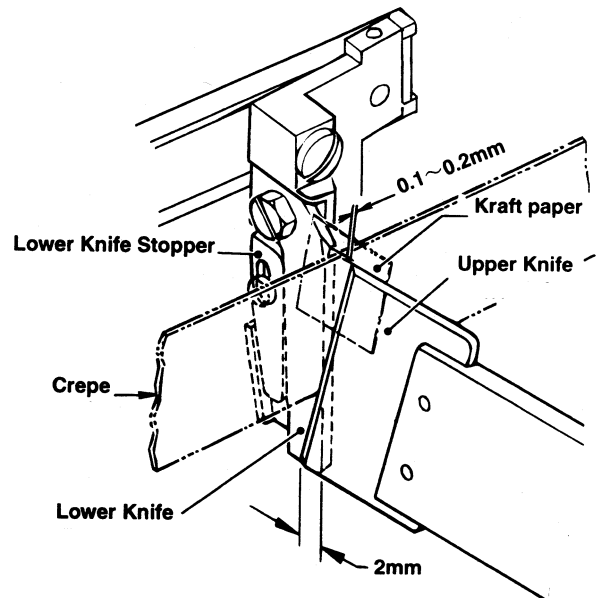
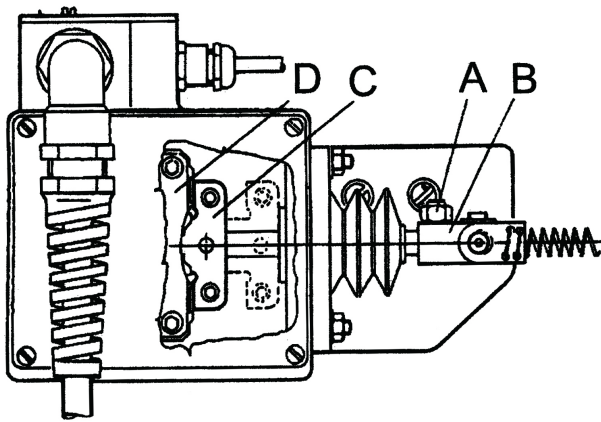
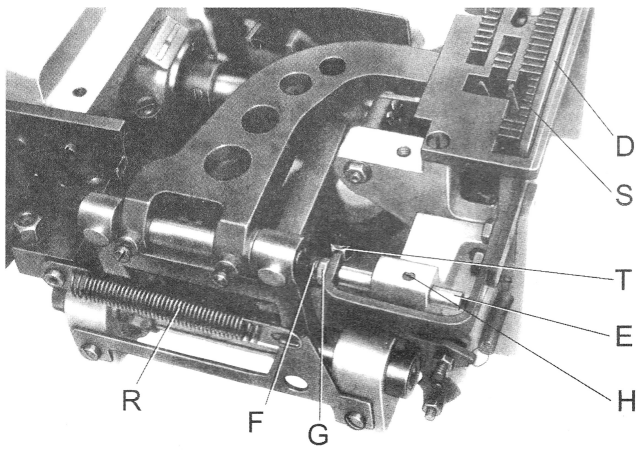
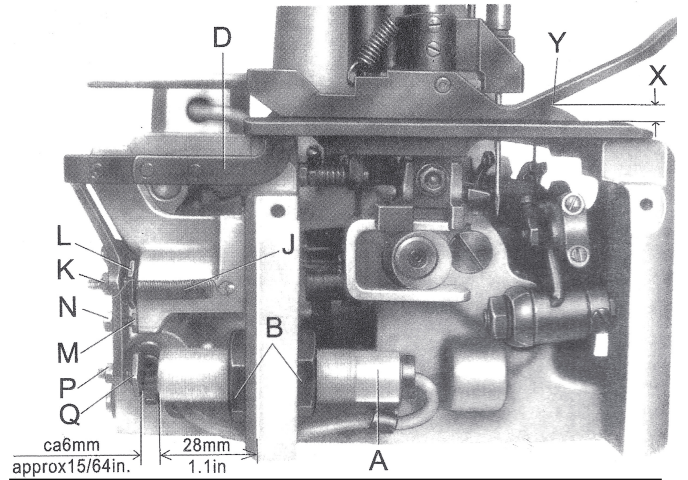

Fig. 16
Fig. 17
Fig. 19
Fig. 20
Note: Put a sheet of craft paper between the upper and lower knife to easily make the clearance. (Fig. 16)
The overlapping depth of the upper knife and bottom blade is 2mm. To achieve this, adjusting should be made by changing the length of air cylinder rod. (Fig. 16)
Model GK35-6RL and GK35-6RLM thread chain cutter is driven by air cylinder. When the thread chain cutter is in its home position below the throat plate, the knife tip of the chain cutter S (Fig. 19) should be positioned 0.5 mm below the throat plate top surface. To obtain this, adjust the knife lever stop screw T with lock nut in the bottom of the bed casting accordingly. Retighten nut. In cutting position, above the throat plate top surface, the cutting edges of the chain cutters should overlap by 0.3mm.
Note: The position of the air cylinder should not strike against the cylinder inside when actuated. The stroke of position must be limited by clamp A (Fig.20) striking against hexagon head stop screw B. Operating pressure of air cylinder is 0.3-0.5Mpa.
Remove cloth plate and left end cover, mount the electronic proximity switch A(Fig.17) to the dimension of 28mm as shown in (Fig.20). When retighten two plastic nut B, don't damage the proximity switch.
The feeler D (Fig. 20) is adjusted initially with the two fastening screws for the feeler supports bracket. The feeler should not have any lateral play, but should turn readily. For this, loosen lock nut G (Fig.19), turn fastening screw F in or out as required, until the feeler turn readily. Retighten lock nut G.
The feeler D should be in the center of the throat plate and the slot of the presser foot. For this, loosen lock screw H(Fig.16) and center the feeler D in the throat plate and presser foot slot by moving the centring shaft E (Fig.19) laterally. Retighten screw H.
The dimension X (Fig.20) between upper throat plate surface and the feeler should not be less than 7mm (set as high as possible). The distance between upper edge Y of feeler and lower edge of the feeler slot cut-out in the presser foot should be approx. 1mm to prevent impacting. For adjustment, loosen nut K and turn off screw L, so that the head of the screw does not contact the magnet in the feeler support bracket. Loosen nut N and turn the feeler stop screw M in or out as required, to adjust the correct feeler height X. Secure the set feeler height with lock nut.
E. Setting the Switching point (Fig.20)